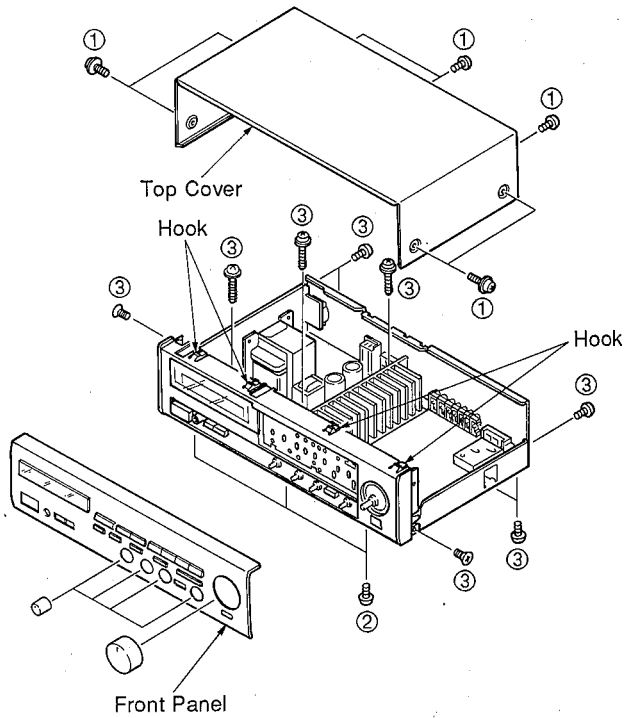

Fig. 1
Remove 7 screws (①) in Fig. 1 and slide the Top Cover back and up.
- b. Remove 3 screws (②) and 4 hooks in Fig. 1, and pull the Front Panel forward.
- a. Remove 13 screws (③) in Fig. 1.